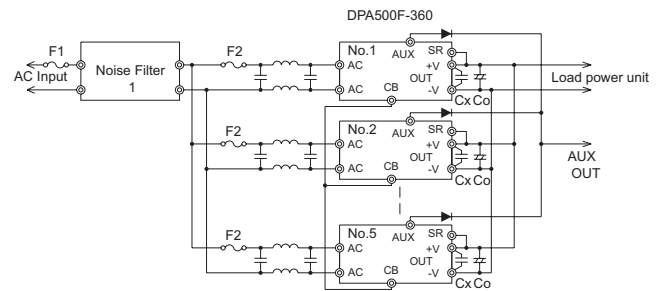

Fig.4.1 Connection for parallel operation
- When used with AUX pin of additional units of this model for parallel connection, make sure to install a diode and that the maximum output current must be below 10mA. Refer to the example shown in Fig.4.1 for connection.